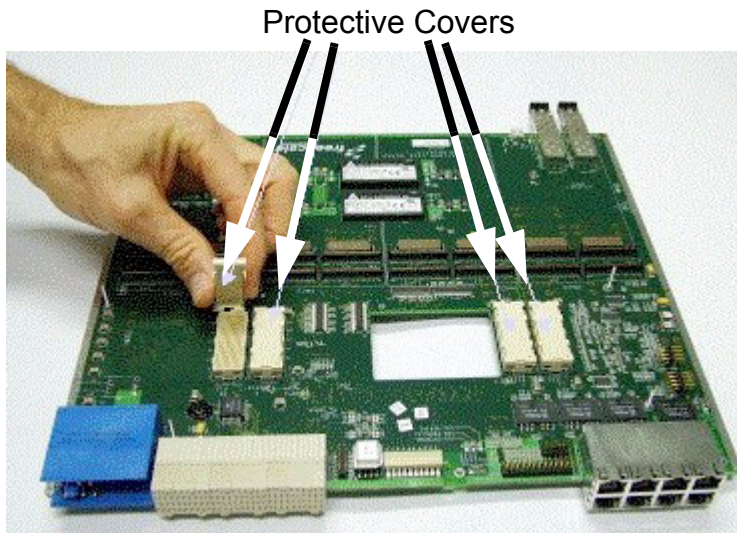

Figure 2-5 Remove Protective Covers from 300-pin connectors (underside of PIB shown)
2. Remove protective covers from the 300-pin connectors on the PIB board (see Figure 2-5).